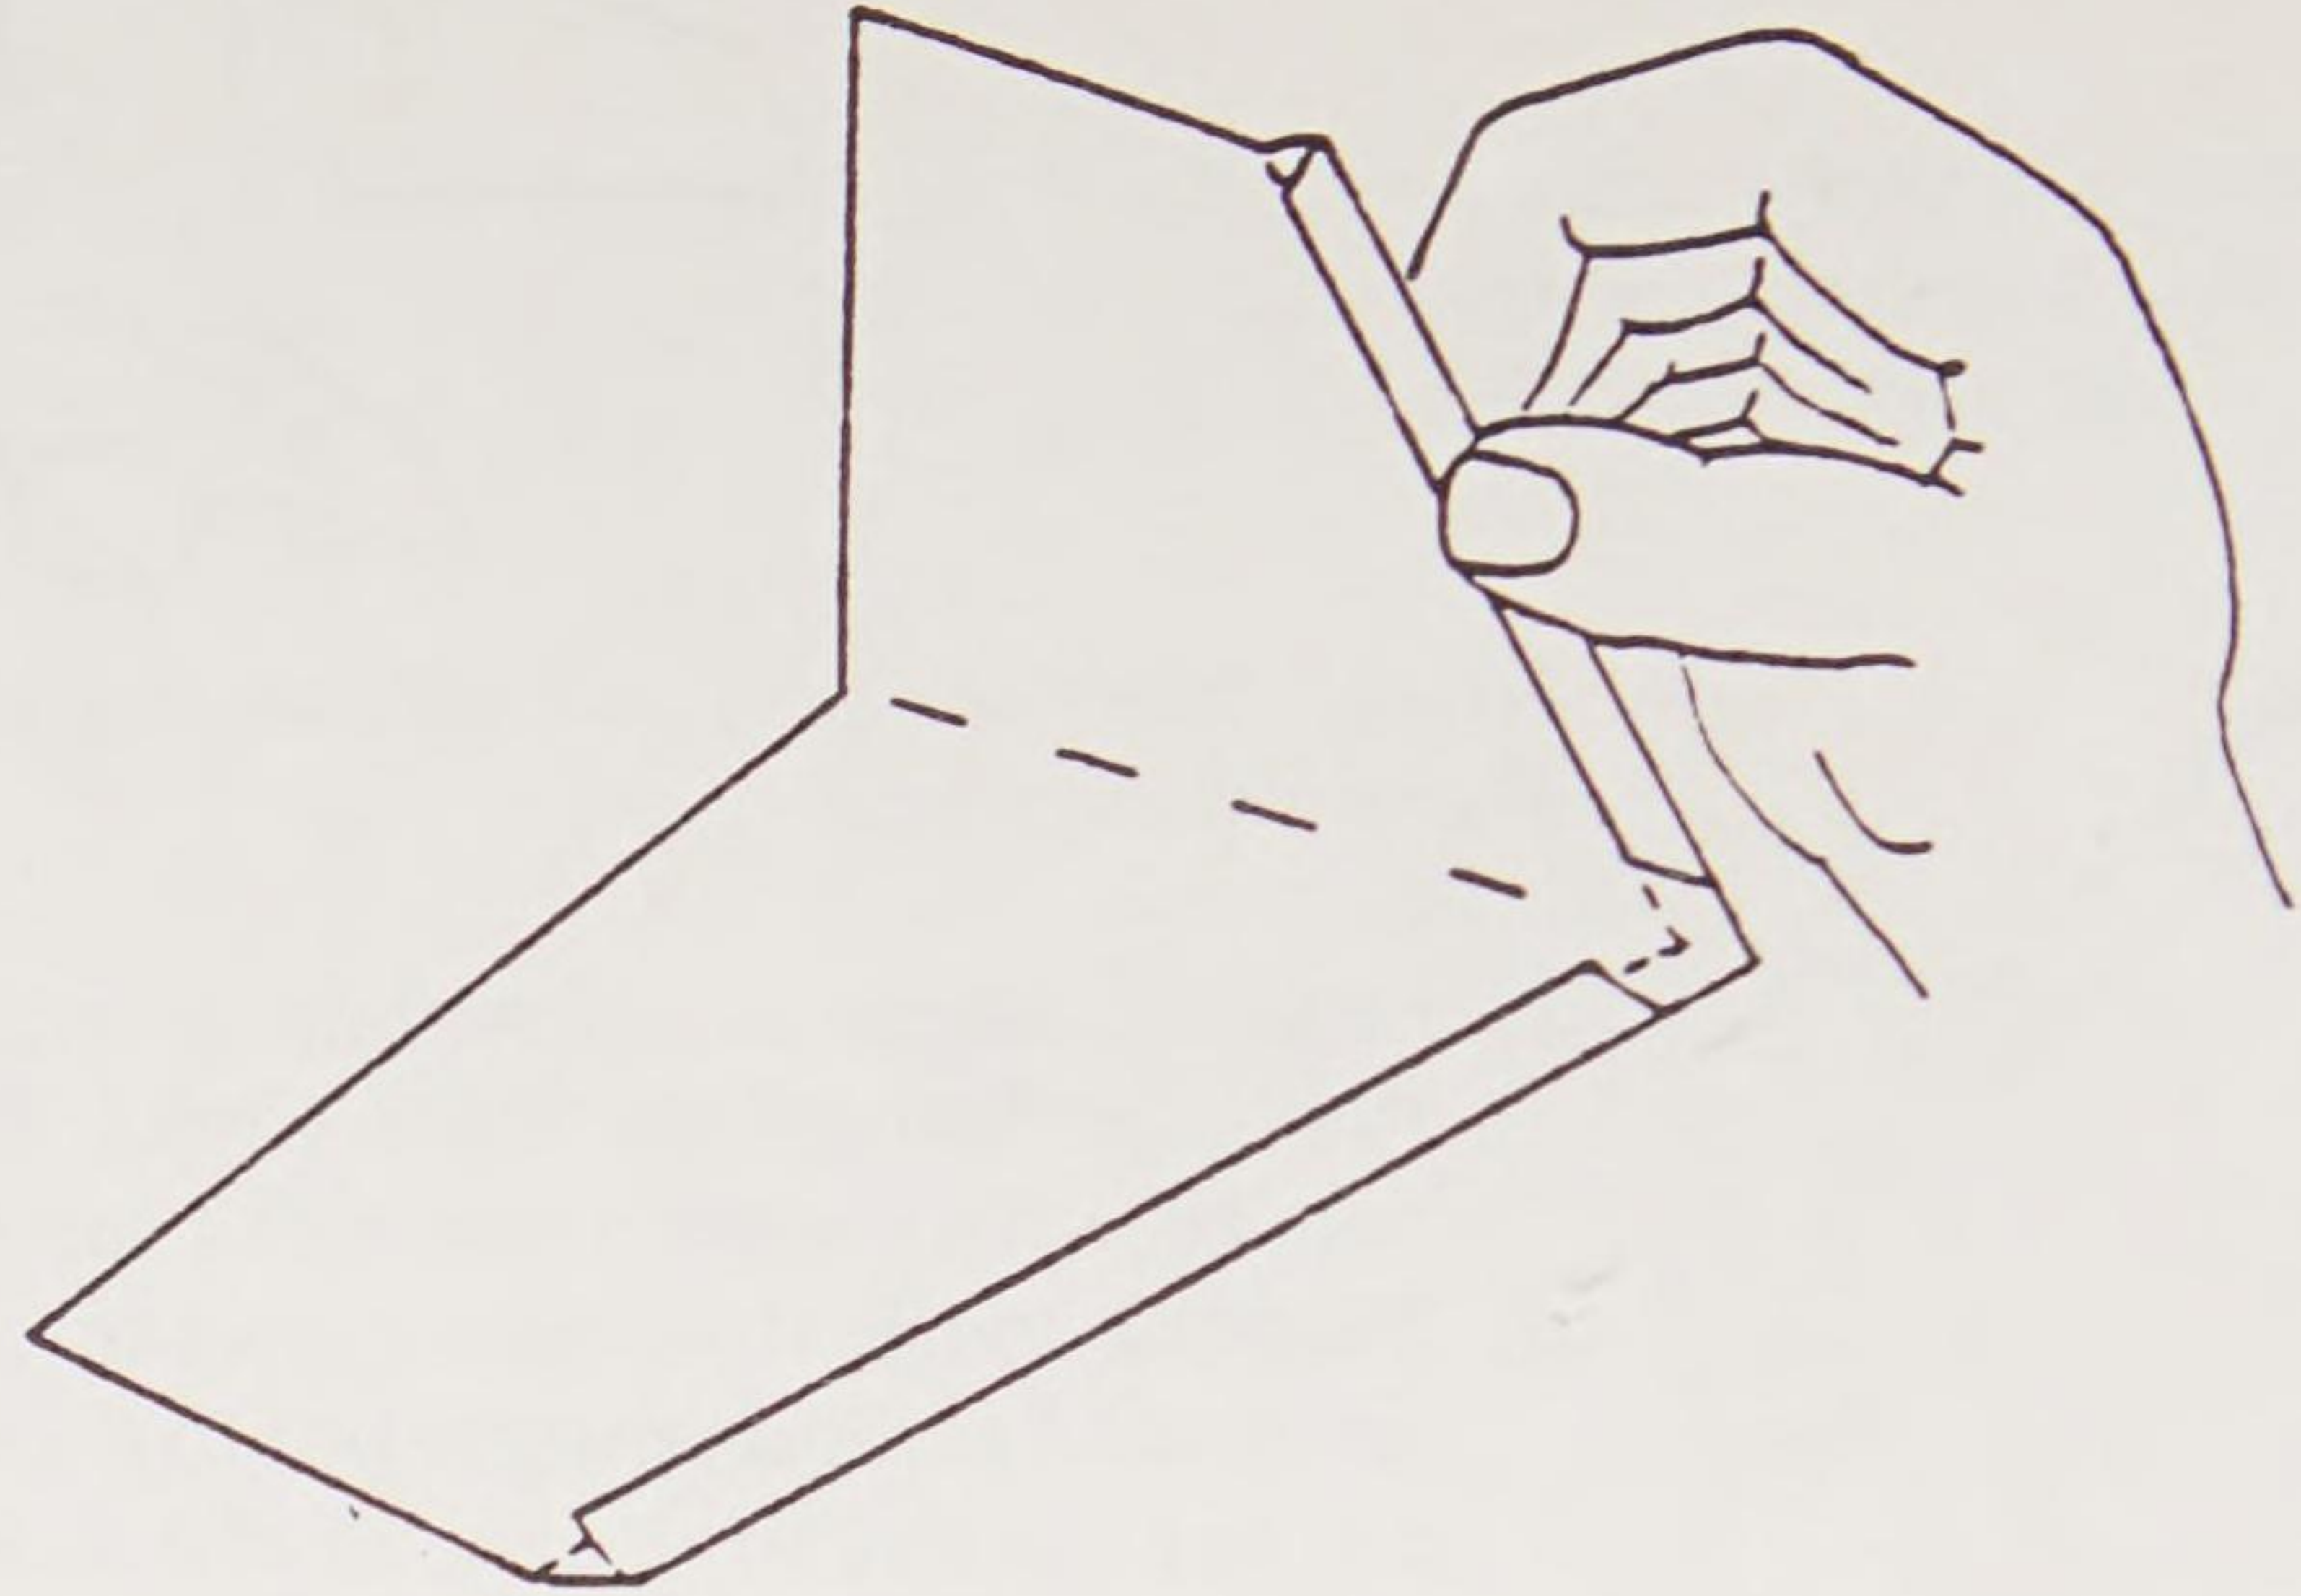

Fig. 15. With the wing upside down, use your thumbnail to shape the wing camber along the tabs on the underside of the leading edge.
- 9 Using your thumbnail under the leading edge of the wing, shape a bend into the wing so that it has the proper airfoil camber. (FIG. 15)